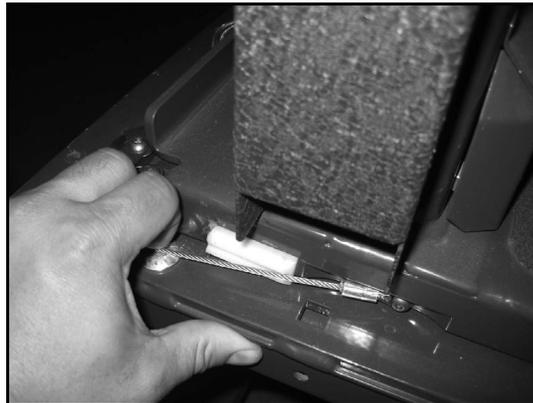

FIGURE 3-9
- 5. Refer to **Figures 3-9**. Deploy platform to floor level. Note slack in cable.
Note: Refer to **Figures 3-9 and 3-10**. When re-assembling, note that cable should wrap around grooved bearings and align with white delrin cable guide. Partially stow lift to remove wood block. Hold cable with pliers when deploying lift to regain tension.